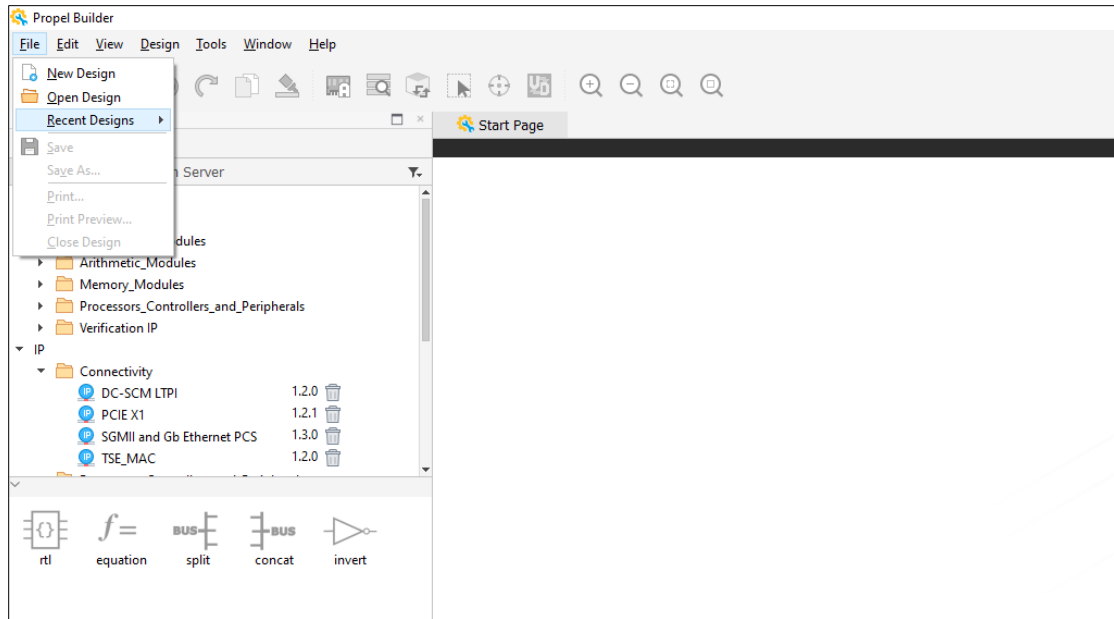

Figure 2.38. Open Recent Project
3. You can also use **File > Recent Designs** from Propel Builder Menu (Figure 2.38) to quickly open a recently closed project.